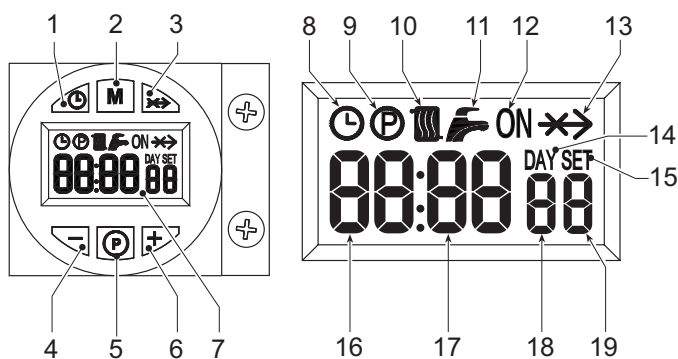

fig. 1 - Control panel
The lighting request (generated on closing of the contact on terminals 7-8 (see fig. 14), in default setting conditions) is indicated by activation of the radiator symbol (detail 10 - fig. 1).
1. Press the day/time setting button (detail 1 - fig. 1).
2. The CLOCK and DAY icons flash on the display (detail 7 - fig. 1): set the current day of the week with the + and - buttons (details 4 and 6 - fig. 1), considering that 1=Monday, 7=Sunday. Confirm the day by pressing the day/time setting button (detail 1 - fig. 1).
3. The two digits of the CURRENT HOUR and the CLOCK icon flash on the display (detail 7 - fig. 1): set the exact hour with the + and - buttons (details 4 and 6 - fig. 1), from 00 to 23. Confirm the hour by pressing the day/time setting button (detail 1 - fig. 1).
4. The two digits of the CURRENT MINUTES and the CLOCK icon flash on the display (detail 7 - fig. 1): set the exact minutes with the + and - buttons (details 4 and 6 - fig. 1), from 00 to 59. Confirm the minutes by pressing the day/time setting button (detail 1 - fig. 1). Automatic Heating, Manual On, Manual Off mode
Press the operation mode selection button (detail 2 - fig. 1) to set the:
1. In Automatic mode, the display (detail 7 - fig. 1) shows the CLOCK icon. The burner activation and deactivation request depends on the set weekly programme. In the request time band, the display (detail 7 - fig. 1) also shows the ON icon.
2. In Manual On mode, the display (detail 7 - fig. 1) only shows the ON icon. The burner is always in request status.
3. In Manual Off mode, the display (detail 7 - fig. 1) does not show the ON icon or the CLOCK icon. The burner is off.
The weekly programme is preset with 3 ON time bands and 3 OFF time bands; equal for every day of the week. In the request time band, the display (detail 7 - fig. 1) shows the ON icon.
1. Press the Programming button "P" (detail 5 - fig. 1)
2. Select the day to be programmed with the + and - buttons (details 4 and 6 - fig. 1):
3. Press the Programming button "P" (detail 5 - fig. 1):
- Use the + and - buttons (details 4 and 6 fig. 1) to modify the start of the 1st ON time band; e.g. 06:00 Press the Programming button "P" (detail 5 - fig. 1)
- Use the + and - buttons (details 4 and 6 fig. 1) to modify the start of the 1st OFF time band; e.g. 09:00 Press the Programming button "P" (detail 5 - fig. 1)
- Use the + and - buttons (details 4 and 6 fig. 1) to modify the start of the 2nd ON time band; e.g. 12:30 Press the Programming button "P" (detail 5 - fig. 1)
- Use the + and - buttons (details 4 and 6 fig. 1) to modify the start of the 2nd OFF time band; e.g. 14:00 Press the Programming button "P" (detail 5 - fig. 1)
- Use the + and - buttons (details 4 and 6 fig. 1) to modify the start of the 3rd ON time band; e.g. 16:00 Press the Programming button "P" (detail 5 - fig. 1)
- Use the + and - buttons (details 4 and 6 fig. 1) to modify the start of the 3rd OFF time band; e.g. 23:30 Press the Programming button "P" (detail 5 - fig. 1)
11. Press the Programming button "P" (detail 5 - fig. 1) for 3 seconds to exit the programming mode.
Press the programming button "M" (detail 2 - fig. 1) for 5 seconds to access the parameters menu. Parameter "u01", identified by the message SET 01, is displayed. Press the button "P" (detail 5 - fig. 1) to scroll the list of parameters.
To modify the value of a parameter, press the + and - buttons (details 4 and 6 - fig. 1): the change will be automatically saved. After modifying the parameter, it is necessary to wait 3 seconds: the datum item flashes and is saved.
Press the "operation mode selection - M" button (detail 2 - fig. 1) for 5 seconds to exit the menu.
Press the programming button "P" (detail 5 - fig. 1) for 10 seconds to access the parameters menu. Parameter "t01", identified by the message SET 01, is displayed. Press the button "P" (detail 5 - fig. 1) to scroll the list of parameters.